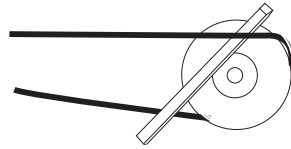

Figure 15
- Always loosen tension enough to install belts without stretching, Do not force the belt(s) see *Figure 15*. Forcing belts will break the cords and cause belt failure.